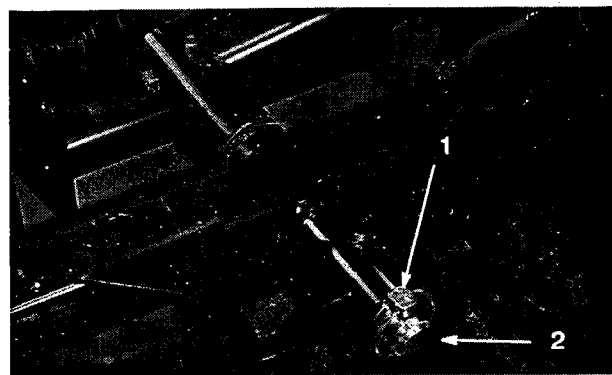

Figure 10
3. Remove lynch pin or retaining nut (GM4700 only) securing deck carrier frame to lift arm pivot pin (Fig. 10).
3. Slide deck carrier frame onto lift arm pivot pin. Secure with lynch pin or retaining nut (GM 4700 only) (Fig. 10).